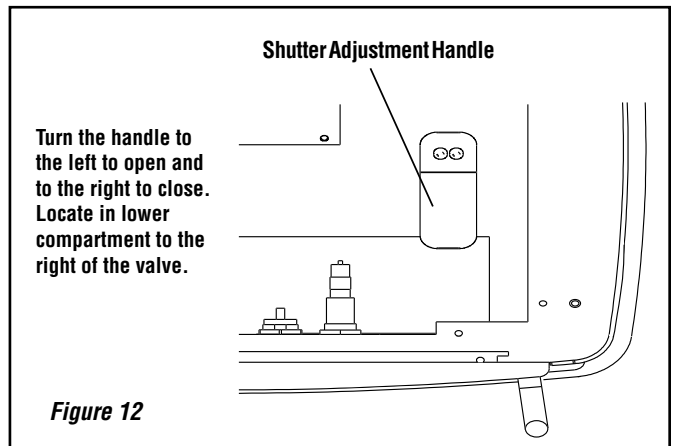
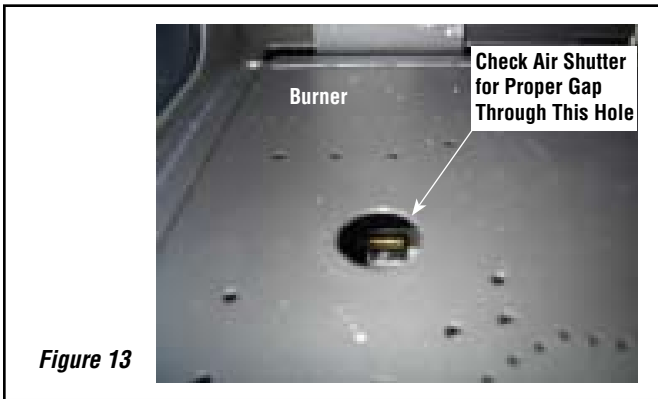

Figure 12
Figure 13
Step 13. Move the air shutter control lever (see **Figures 12**) all the way to the right (full open). See **Figure 13**.
Step 14. Re-Install burner, and make sure air shutter is full open for Propane Gas (see **Figure 13**). The proper air shutter adjustment may need to be adjusted from standard depending upon variables in the installation. After step 19, with the appliance lit and fully warmed up, evaluate the burner flame appearance and re-adjust air shutter for proper flame appearance, if necessary.